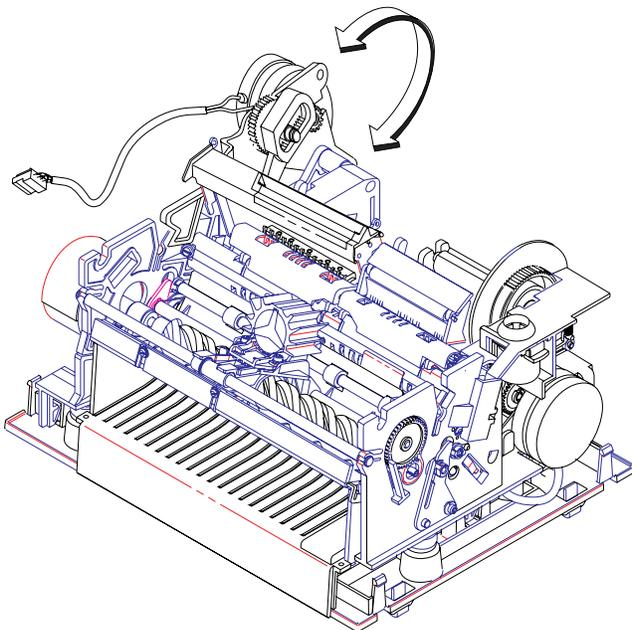

Figure 6-59. Paper Cutter
- 1 Lower the paper cutter into the platen and rotate as shown in Figure 6-59.